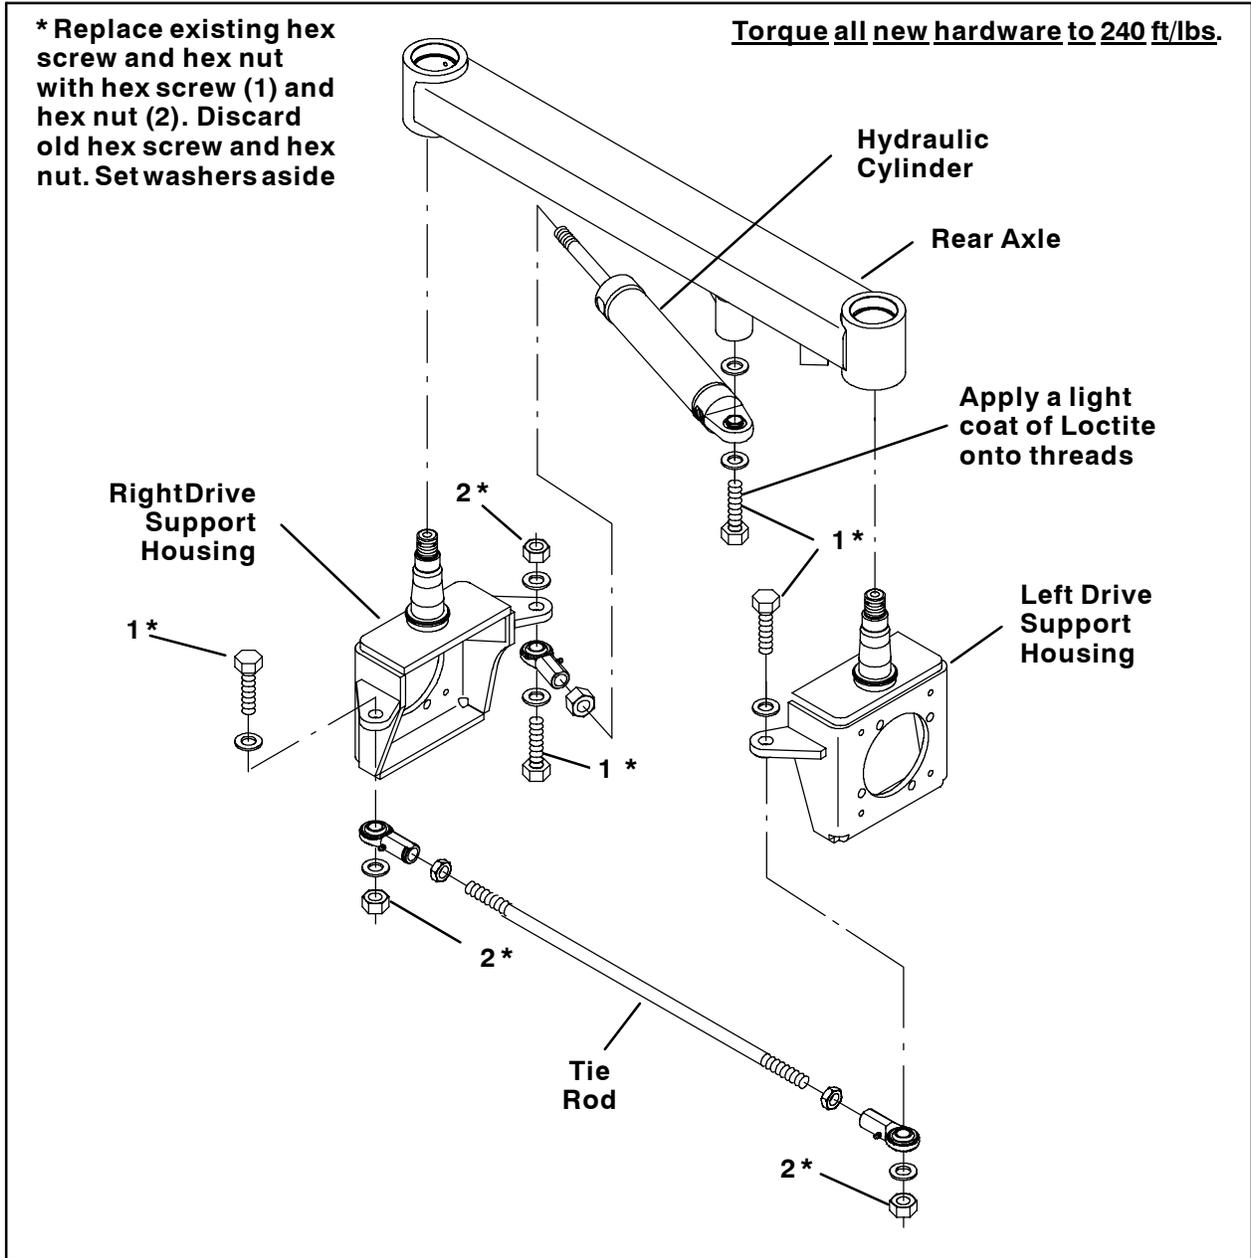

FIG. 1
(Refer to FIG. 1)
1. Remove the tie rod from the left drive support housing and right drive support housing. Set the washers aside. Discard the hex screws and hex nuts. Refer to Fig. 1.
2. Remove the hydraulic cylinder from the right drive support housing. Set the washers aside. Discard the hex screw and hex nut. Refer to Fig. 1.
3. Remove the hydraulic cylinder from the rear axle. Set the washers aside. Discard the hex screw and hex nut. Refer to Fig. 1.
4. Use a hex screw (1), hex nut (2), and the saved washers to reinstall the tie rod onto the left drive support housing and right drive support housing. Torque the hardware to 240 ft/lbs. Refer to Fig. 1.
5. Use a hex screw (1), hex nut (2), and the saved washers to reinstall the hydraulic cylinder onto the right drive support housing. Torque the hardware to 240 ft/lbs. Refer to Fig. 1.
6. Apply a light coat of blue Loctite® onto the threads of the remaining hex screw (1). Refer to Fig. 1.
7. Use the hex screw (1) from the previous step, a hex nut (2), and the saved washers to reinstall the hydraulic cylinder onto the rear axle. Torque the hardware to 240 ft/lbs. Refer to Fig. 1.